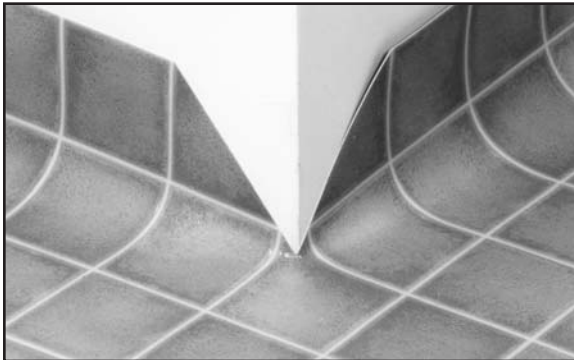

Fig. 53. Make relief cuts at all outside corners.
- First, make relief cuts at all outside corners. Keep the knife horizontal with the floor and cut from the top of the material down to the floor/wall juncture until the flooring lays flat (Figure 53).